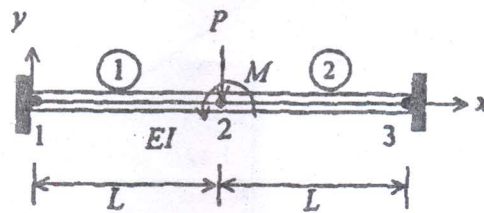

Fig. 5
16. The beam shown in figure 5 is clamped at the two ends and acted upon by the force P and moment M in the mid-span. Determine the deflection and rotation at the center node and the reaction forces and moments at the two ends. (16)